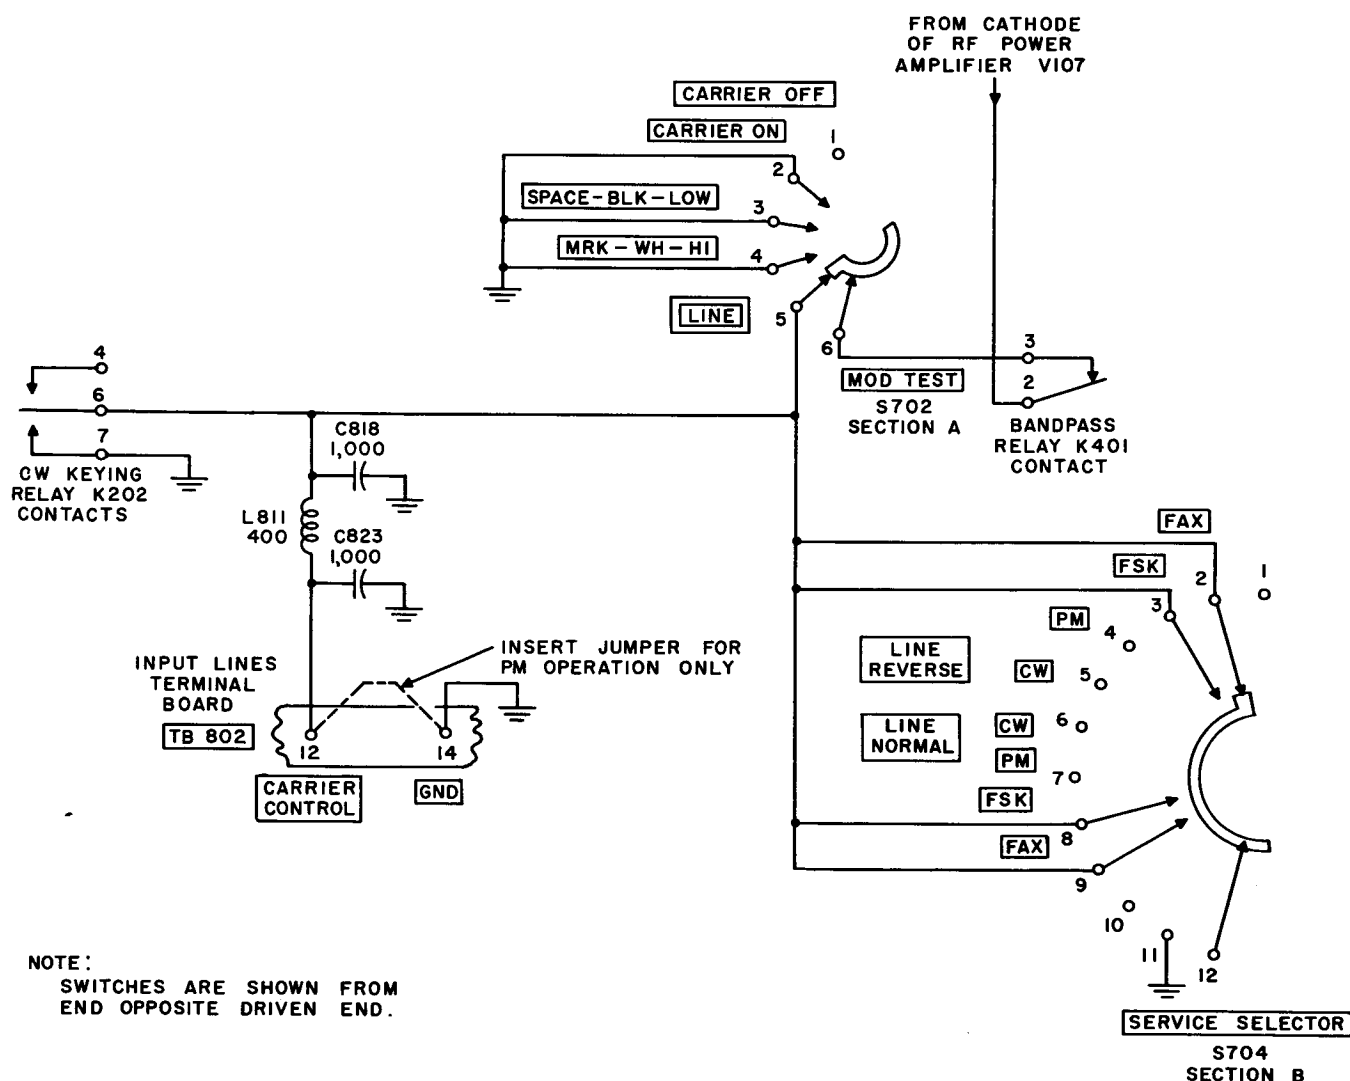

Figure 50. Rf power amplifier cathode ground circuit, simplified schematic diagram.
83. Rf Power Amplifier Cathode Ground Circuit (fig. 50)